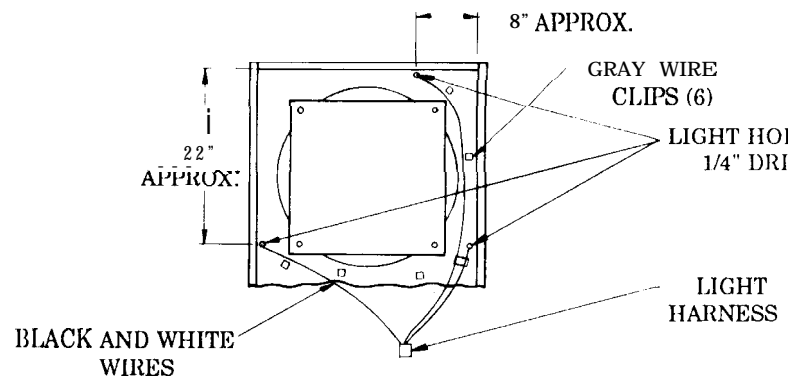

FIGURE 13
(See Figure 13) Drill (3) 1/4" holes as close to the sides as possible and in the approximate location of the lamp sockets. Run the black and white wire from the socket through the black tube then through the 1/4" drilled holes to the back of the cabinet.